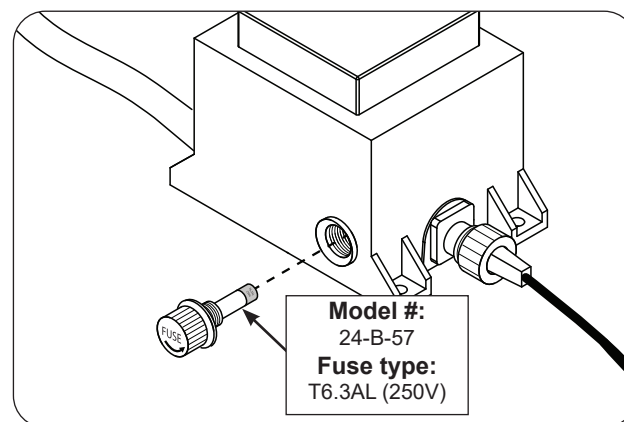

Fig. 38-3 Replace fuse
3. Locate and turn the power supply fuse cap counterclockwise to remove the cap and access the fuse (see Fig. 38-3).